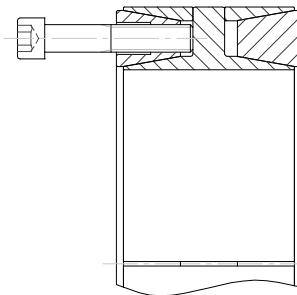

Fig. 2
2. Loosen all locking screws and transfer some into all push-off threads in clamp collar item [2] (see fig. 2).